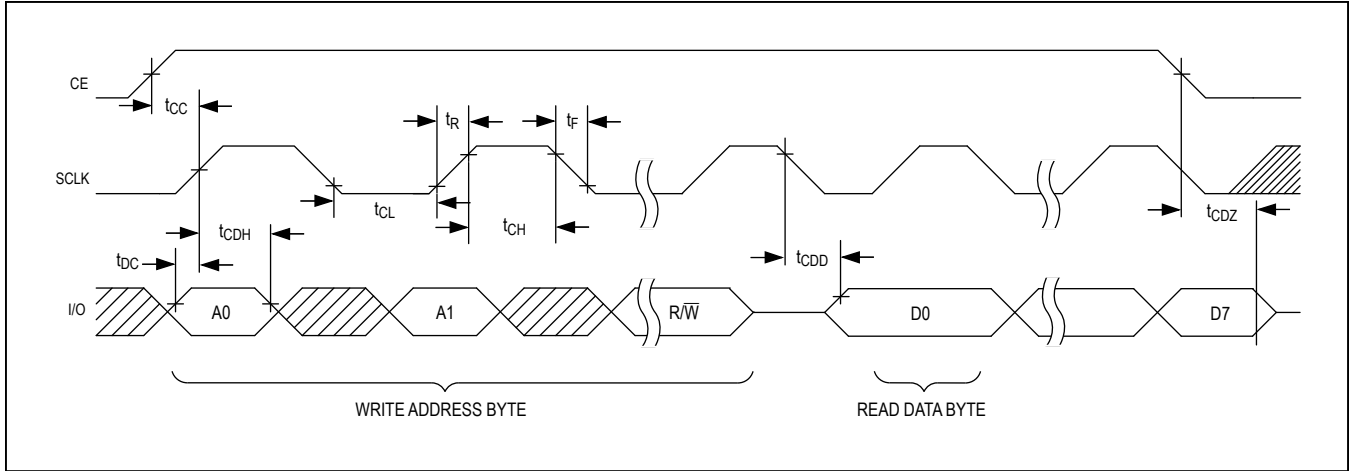

Figure 3. Timing Diagram—3-Wire Read Transfer
**AC Electrical Characteristics—3-Wire Interface** $(V_{CC} = V_{CC(MIN)}$  to  $V_{CC(MAX)}$ ,  $T_A = -40^{\circ}\text{C}$  to  $+85^{\circ}\text{C}$ .) (Note 1) (Figures 3, 4)